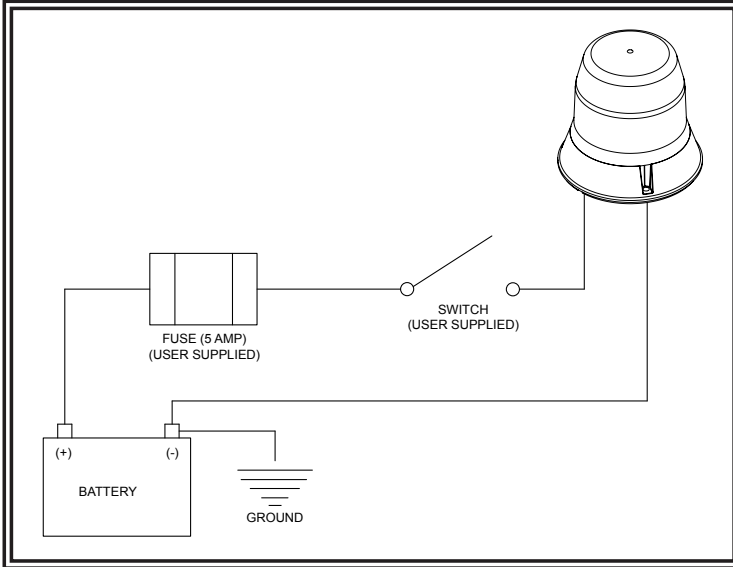
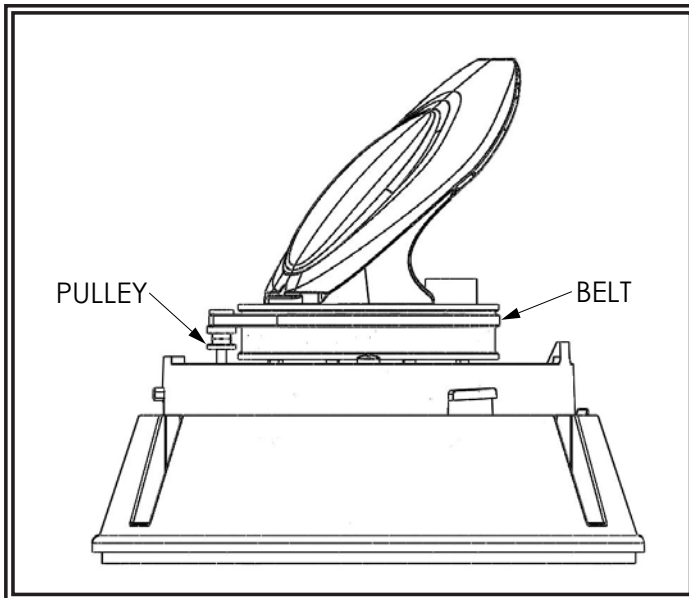

FIGURE 4
FIGURE 5
2. Remove the three (3) mounting bolts from the base.
6. Wire the beacon as shown in FIGURE 4. Apply sealant around the wires where they pass through the mounting surface to prevent leakage.
5. Wire the beacon as shown in FIGURE 4. Apply sealant around the wires where they pass through the mounting surface to prevent leakage.
The wiring is as shown in FIGURE 4. All wiring should be a minimum of 18AWG. The positive line must have a 5 amp fuse, as shown. A switch may be used to control the on/off function. Route the ground wire directly back to negative battery terminal. Pack dielectric grease, such as Dow Corning 4, around each electric connection exposed to moisture or the ambient environment. For a 24 VDC system, remove the lens, move the belt to the upper slot on the pulley as shown in FIGURE 5 and reattach the lens.